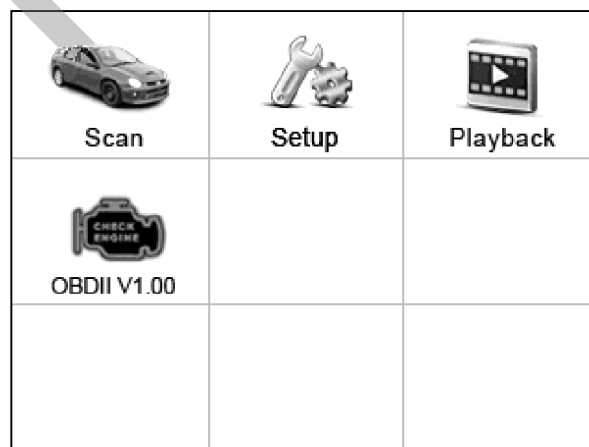
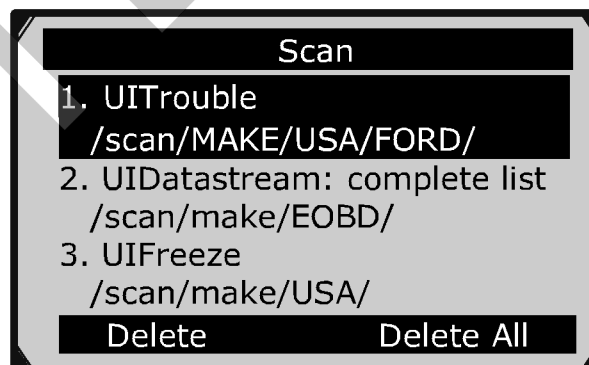

Figure 3.1
Figure 4.1
- 4) Power up the scan tool , and wait for the **Main Screen** to appear.(Figure 3.1)
- 1) Use the **LEFT/RIGHT** scroll button to select **Playback** from **Main Screen** (Figure 3.1), and press the **OK** button. Wait for the **Scan** screen to appear. (Figure 4.1)
- 2) Select **Scan** icon in the **Main Screen** (Figure 3.1) and wait for the vehicle manufacturer screen. Choose the correct vehicle make.